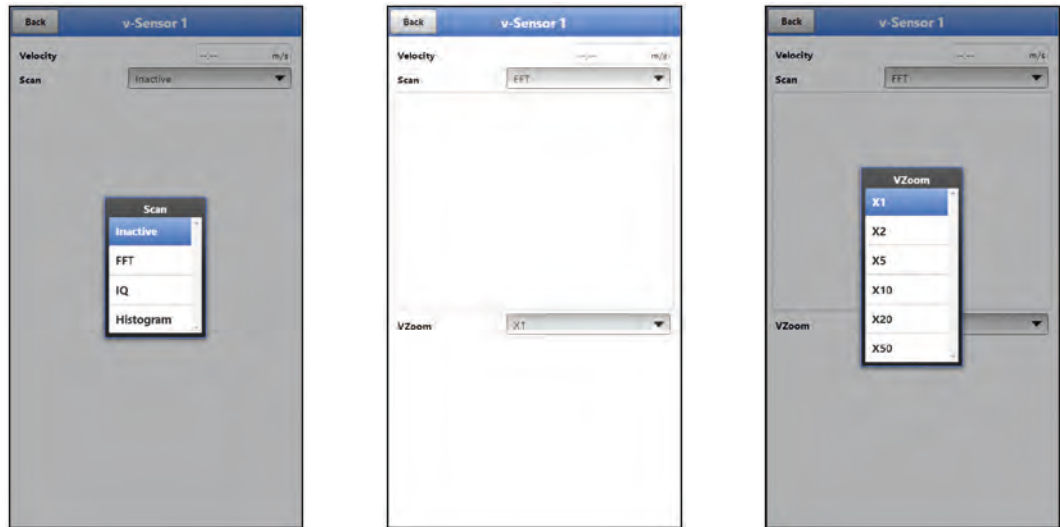

Fig. 50-1 Signal analysis selection menu / FFT / IQ
- **>FFT<** (Fig. 50-1 pict. 2)
>VZoom< of chart (Fig. 50-1 pict. 3):